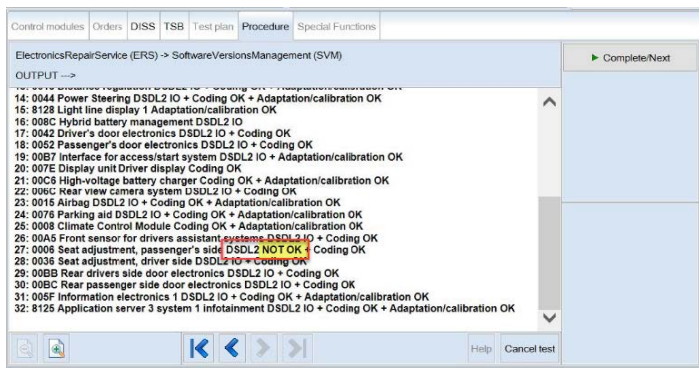

Figure 15: Example “NOT OK” response
- If there is an “NOT OK” note for one or several control units (see figure 15), the update must be attempted again (go back to step 7).